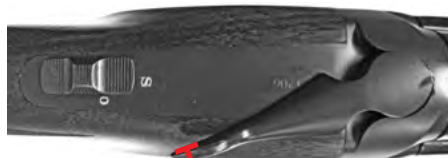

FIGURE 3
2. Move the TOP LEVER to the right as far as it will go (see FIGURE 3). Do not use excessive force, the lever should move easily.
2. Move the TOP LEVER to the right as far as it will go (see FIGURE 3) to open the action. Do not use excessive force, the lever should move easily.